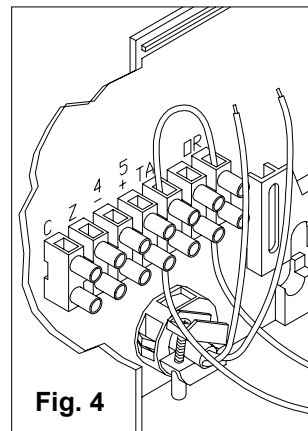

Fig. 4
- Move the bridge PT (see fig.4) from terminal TA to the free one next to it.